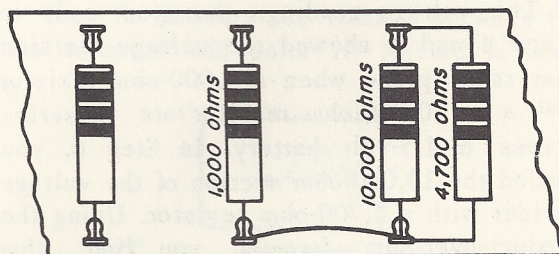

Fig. 9-4
Step 6. Connect and solder the 4,700-ohm resistor that you received in Kit 5 across the 10,000-ohm resistor, as in Fig. 9-4.